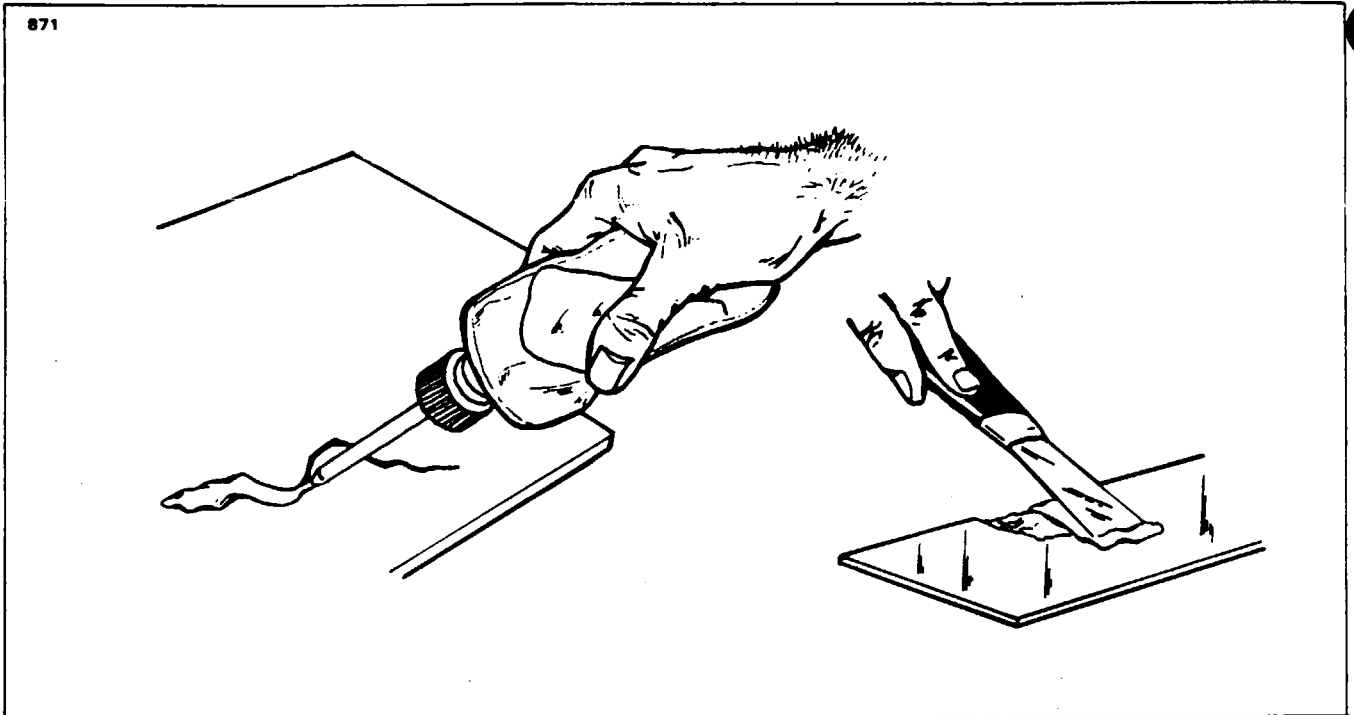

Figure 51-4. Deep Scratches. Shallow Nicks and Small Holes
3. Deep Scratches, Shallow Nicks and Small Holes: (Less than 1 inch in diameter.) (Refer to Figure 51-4.)